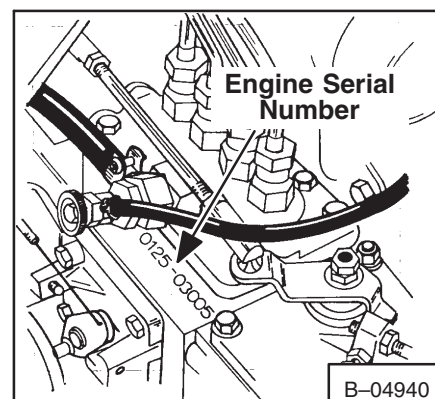

Fig. 1-4 (643) Engine Serial Number
**643 Kubota:** (Fig. 1-4) The engine serial number location is on the left side above the speed control arm. Use all the numbers when ordering parts for this engine.